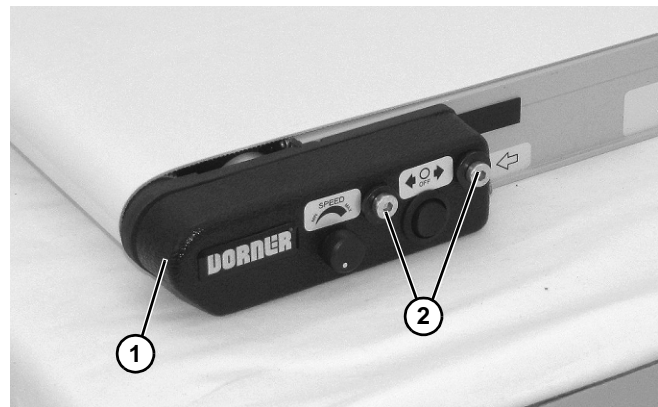

Figure 47
2. Remove inframe drive side cover (**Figure 47, item 1**) by removing two iDrive cover screws (**Figure 47, item 2**).
3. Unplug motor connector (Figure 47, item 1) from cover wiring connector (Figure 47, item 2).